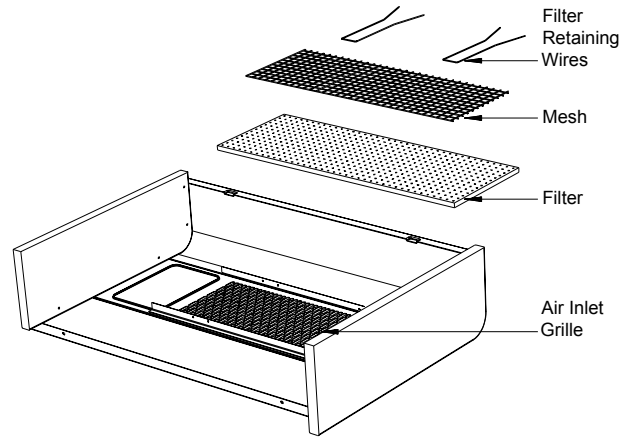

Fig. 7
- **Filter** : The filter can be removed completely for cleaning, but generally, provided this is cleaned frequently as detailed above, this should not be necessary. Where removal of filter is required for cleaning, the filter retaining wires can be removed, allowing the mesh and the filter to be taken out (see Fig. 7).